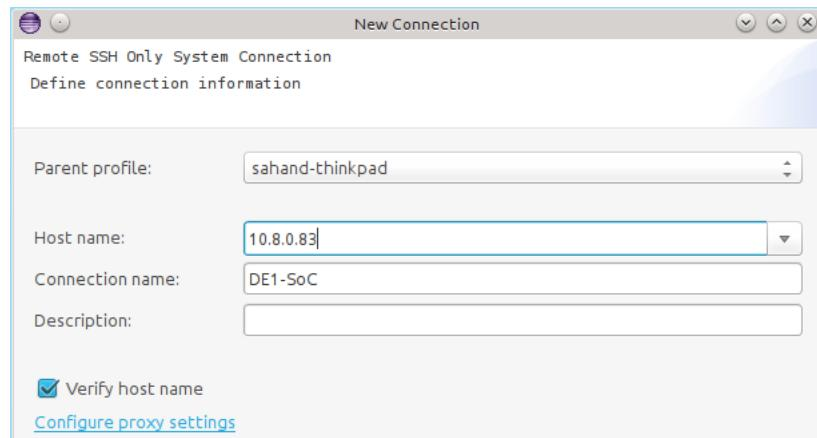

Figure 8-49. New SSH Only Connection
16. Enter “DE1-SoC” as the “Connection name”. You should have something similar to Figure 8-49.